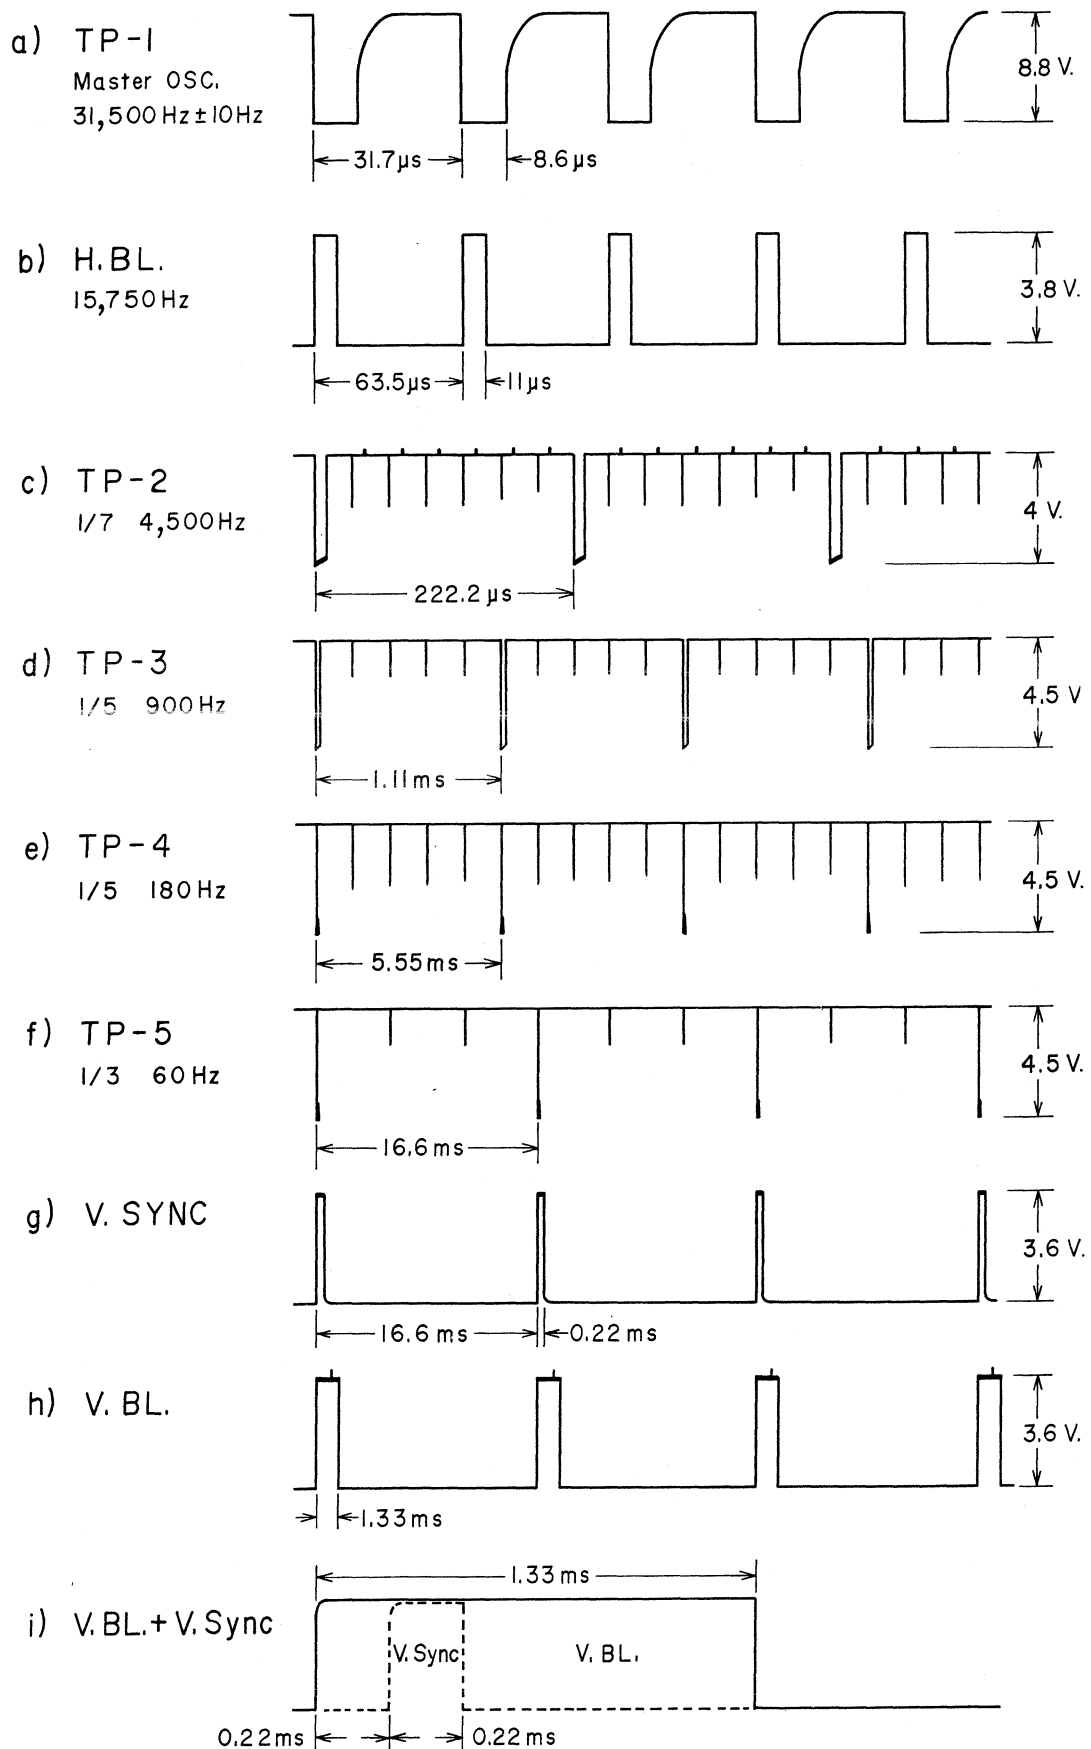

Fig. 1-39 S.S.G. Waveforms (PX-509)
- c) Adjust core of oscillator coil "L 7001" (Sny-033-1357) so that the frequency counter indicates 31,500 Hz (± 10 Hz) as shown in fig. 1-39 (a).
Confirm that the frequency of the wave form at PX-509 Horizontal Blanking Terminal is 15,750 Hz as shown in fig. 1-39 (b).
(3) Frequency Divider Adjustment
- Adjust Potentiometer VR-1 so that the waveform at TP-2 (as shown in fig. 1-39 (c)) is triggered at the 7th pulse. At this point, confirm that the negative pulse frequency of TP-2 is $1/7$ of 31,500 Hz (4,500 Hz).
- Adjust VR-2 so that the waveform at TP-3 (as shown in fig. 1-39 (d)) is triggered at the 5th pulse. At this point, confirm that the frequency is $1/5$ of 4,500 Hz (900 Hz).
- Adjust VR-3 so that the waveform at TP-4 (as shown in fig. 1-39 (e)) is triggered at the 5th pulse. At this point, confirm that the frequency is $1/5$ of 900 Hz (180 Hz).
- Adjust VR-4 so that the waveform at TP-5 (as shown in fig. 1-39 (f)) is $1/3$ of 180 Hz (60 Hz).
(4) Confirmation of Vertical Sync. Signal
Connect an oscilloscope to PX-509 vertical sync. terminal and confirm that the pulse width of the vertical sync. signal is 0.22 milli-seconds and that the cycle time is 16.6 milli-seconds per each Hz. (ref. fig. 1-39 (g)).
Connect an oscilloscope to PX-509 vertical blanking terminal and confirm that the vertical blanking signal pulse width is 1.33 milli-seconds and that the cycle time is 16.6 milli-seconds per each Hz. (ref. fig. 1-39 (h)).